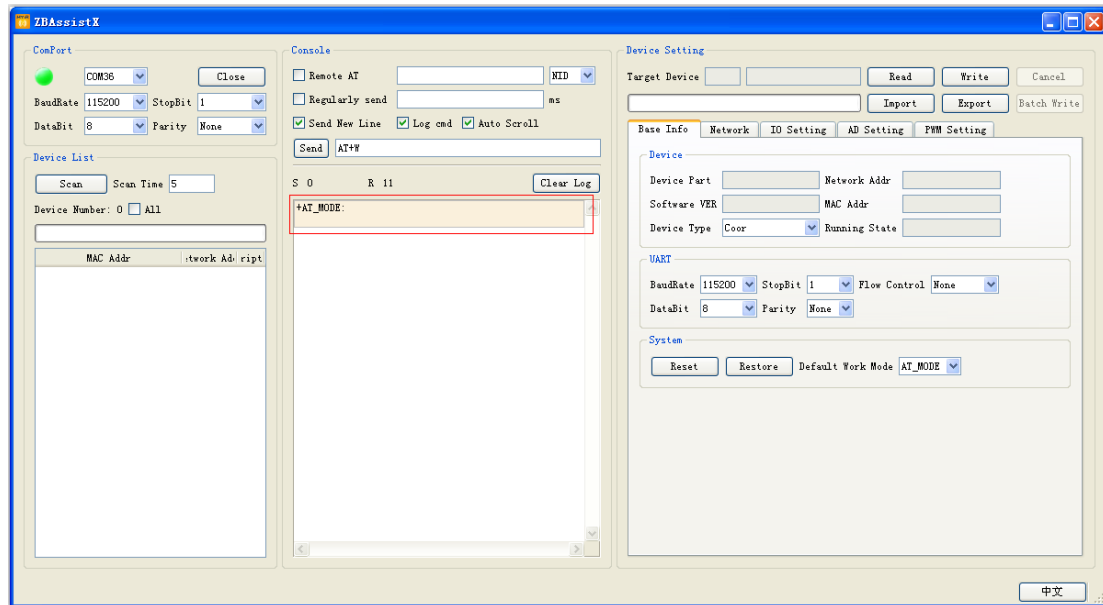

Figure 3-7
4. After power on, the red power led bright constantly, blue network signal led flash slow, and configuration software receives "+AT_MODE:\r\n" as shown in Figure 3-7: